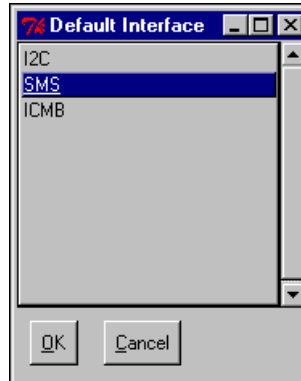

Figure 2-14. Default Interface Dialog Box
- **Default Interface**—Presents a dialog box for selecting the default target interface. This dialog lists all open interfaces. Clicking on an item in the list selects that interface. Clicking OK makes the selected interface the default interface. The result appears in the status bar on the main window. Figure 2-14 shows the Default Interface dialog: